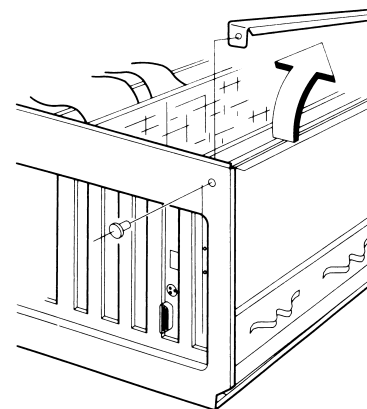

Figure 7-12. Reinforcement Brace.
2. Remove the reinforcement brace (COMPAQ DESKPRO 286) (Figure 7-12).